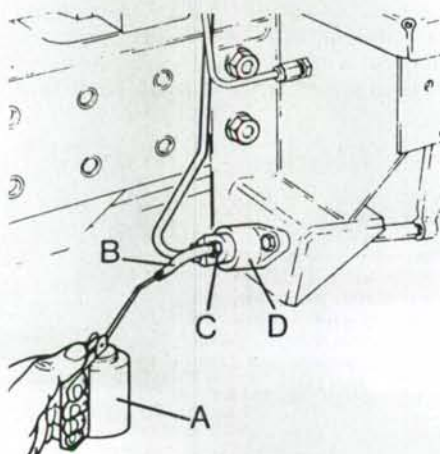

Fig. 161—Use pressure oil can (A) connected to air screw (C) on slave cylinder (D) by flexible tube (B) to bleed air from clutch hydraulic system.
To bleed system, clean a pressure oil can and fill can with specified fluid. Connect oil can to air screw (C—Fig. 161) on clutch slave cylinder (D) using a flexible hose (B). Remove reservoir filler cap and loosen air screw. Operate pressure oil can to push fluid into reservoir. When fluid entering reservoir is free of air bubbles, tighten air screw.